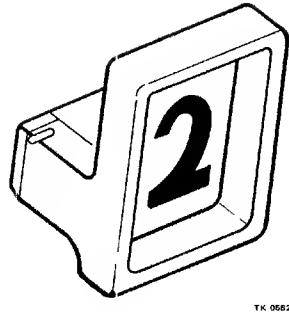

Figure 5-20 Logical Address Plug
3. Remove the logical address plug (Figure 5-20) from the drive's operator panel.